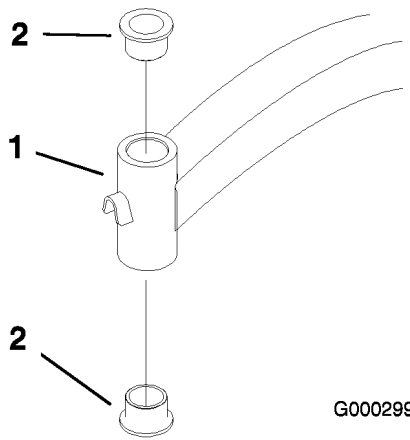

Figure 46
4. Insert a pin punch into the mounting tube and carefully drive out the bushings (Figure 46). Clean the inside of the mounting tube.